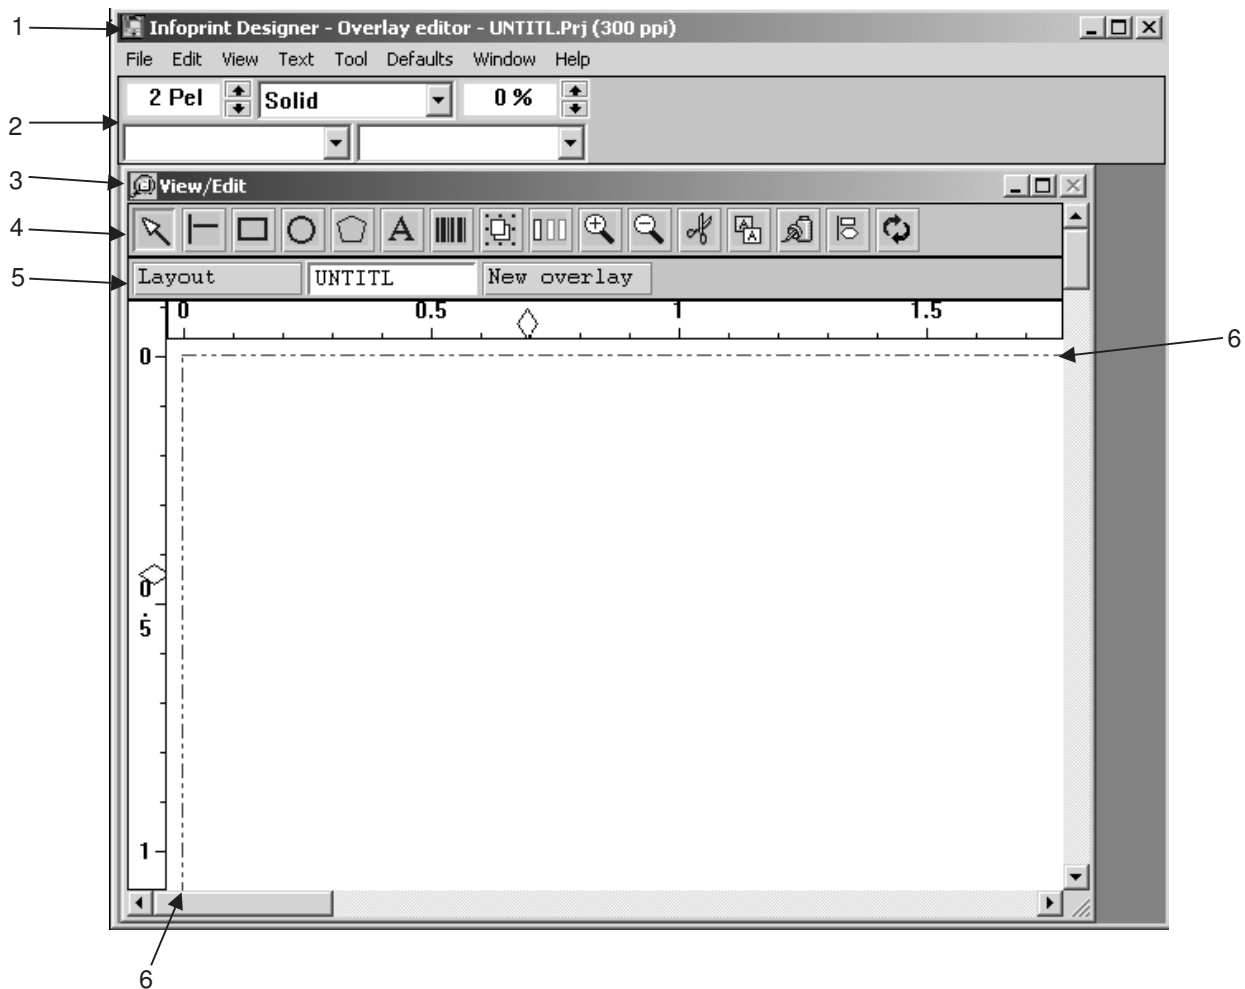

Figure 1. Infoprint Designer window
When you start Infoprint Designer, a window like the one shown in Figure 1 appears.
5. The **Mode toolbar** on the **View/Edit** window contains buttons that let you switch between overlay and layout design mode. The contents of the mode toolbar stay the same across design modes. A white background on the mode's button indicates the active mode. In Figure 1 on page 14, UNTITL is the active overlay.